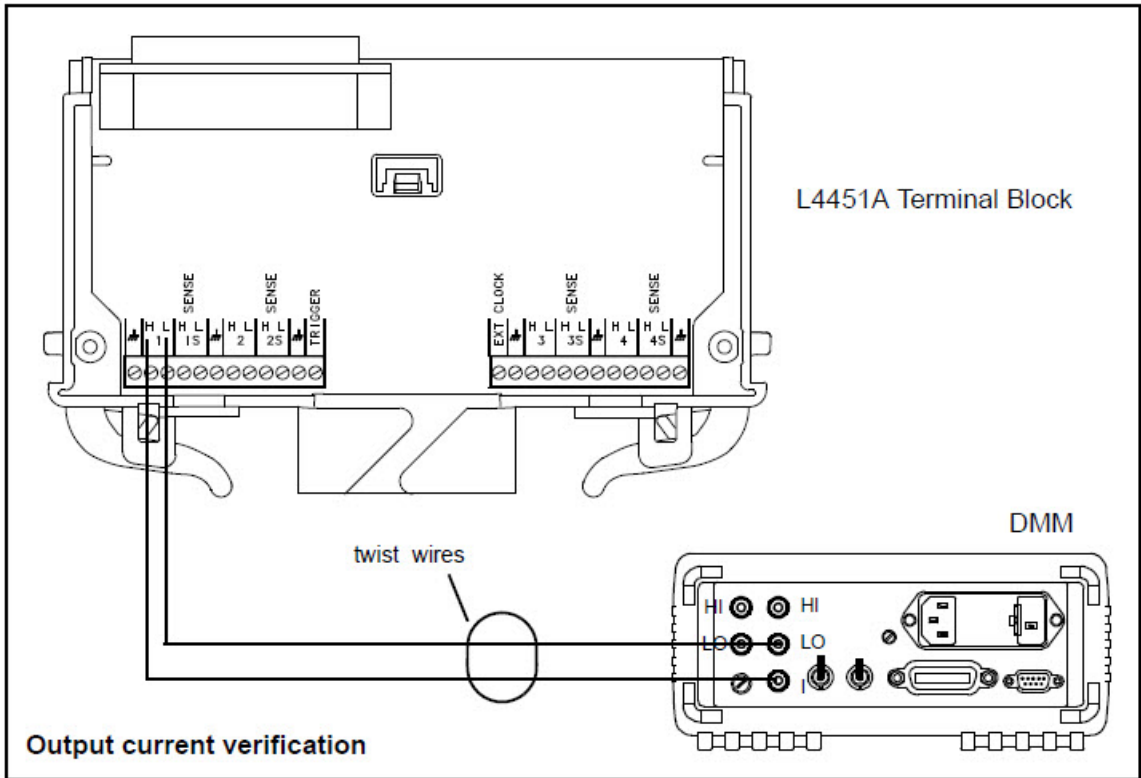
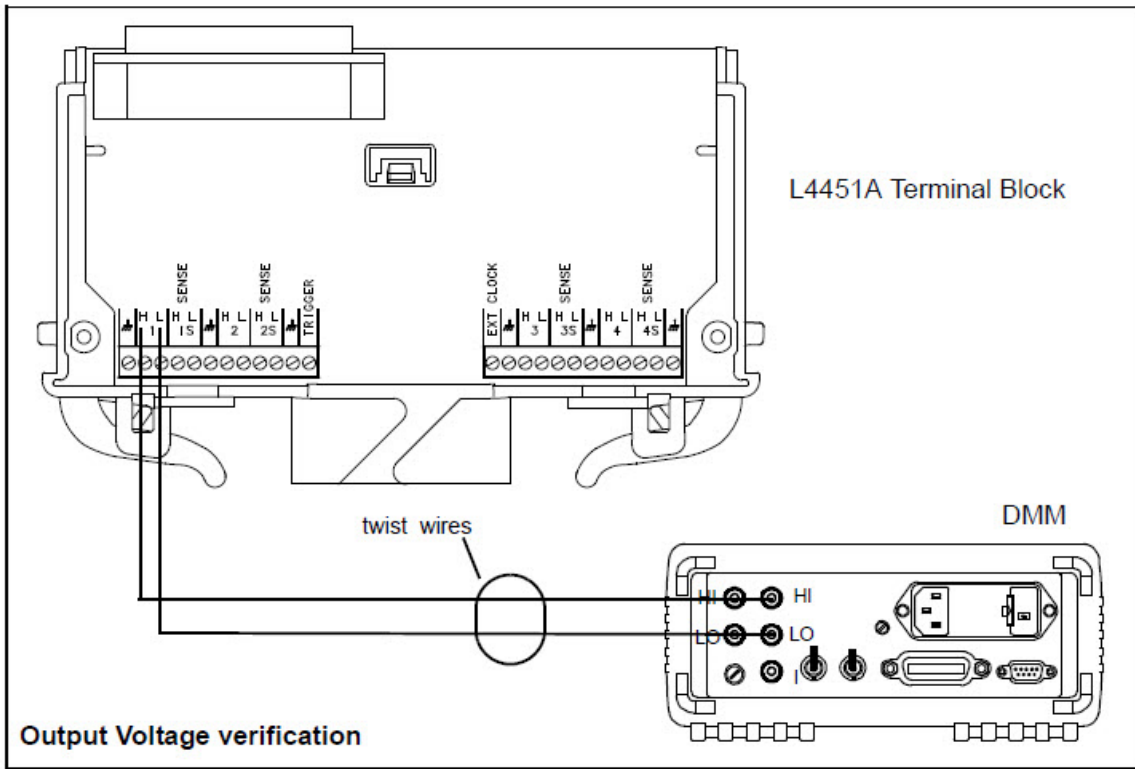

Figure 11-1 L4451A Output Current Connections.
Figure 11-2 L4451A Output Voltage Connections.
The test connections for verifying the L4451A DAC output current and voltage using an external DMM are shown in Figure 11-1 and Figure 11-2.
- 3 Connect channel 1 of the L4451A as shown in Figure 11-1. Configure the L4451A to output the currents listed in Table 11-2. For each current level measured, subtract the current offset recorded in Step 2 as applicable. The results should be within the limits listed in Table 11-2.
- 3 Connect channel 1 of the L4451A as shown in Figure 11-2. Configure the L4451A to output the voltages listed in Table 11-2. For each voltage level measured, subtract the offset voltage recorded in Step 2 as applicable. The results should be within the limits listed in Table 11-2.
- 4 Connect channel 1 of the L4451A to the DMM as shown in Figure 11-2. Set the DMM to measure DC volts.
- 8 Separately connect L4451A channels 2, 3, and 4 to the DMM as shown in Figure 11-2. Repeat Steps 5 through 7 for each channel until calibration points 1 through 9 have been measured and entered.
- 4 Connect channel 1 of the L4451A to the DMM as shown in Figure 11-1. Set the DMM to measure DC current.
- 8 Separately connect L4451A channels 2, 3, and 4 to the DMM as shown in Figure 11-1. Repeat Steps 5 through 7 for each channel until calibration points 1 through 13 have been measured and entered.